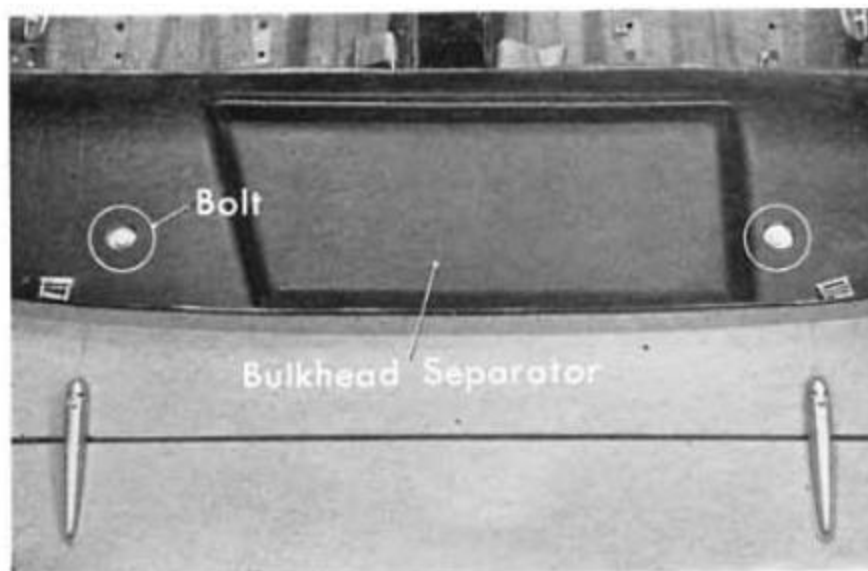

Fig. 17A-15
28. Disassemble the rear bumper by removing the bolts ①, ②, ③ in the numbered sequence (Fig. 17A-12).